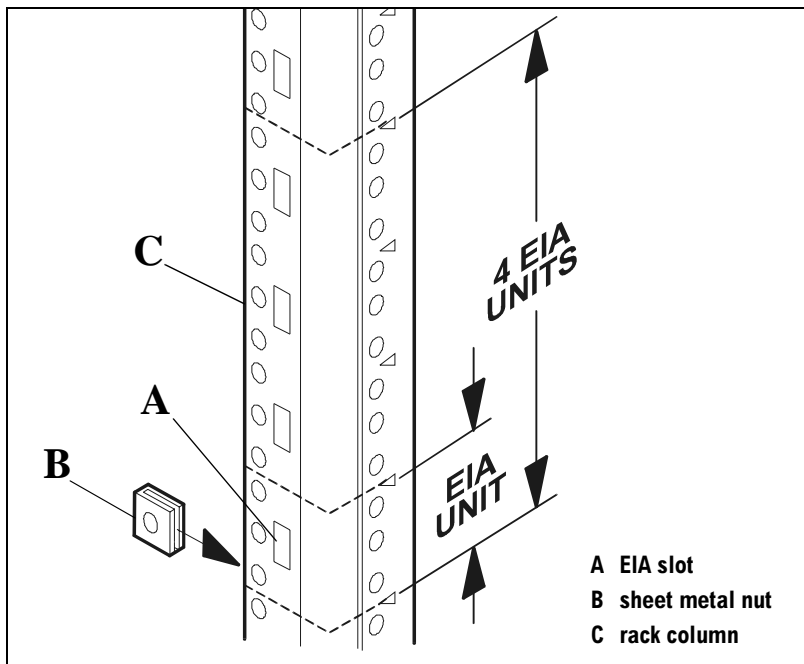

Figure 19 Rack Column Detail – HP Legacy Racks
The disk system consumes 4 EIA Units (U) in a legacy rack, 3.5 for the product and .5 for the rail. Select a 4-U space on the rack column and install a sheet metal nut (B in Figure 19) on the bottom hole.